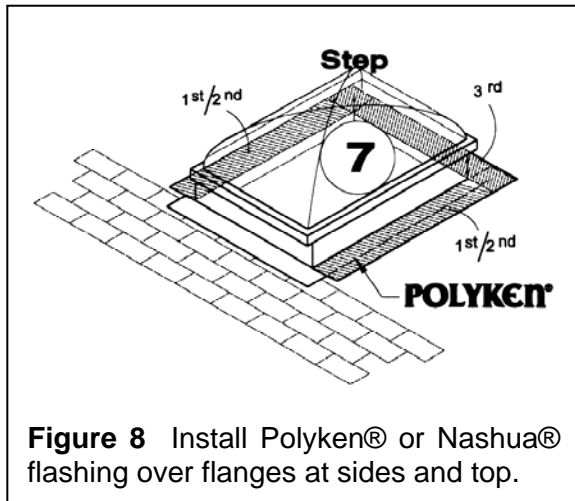

Figure 8 Install Polyken® or Nashua® flashing over flanges at sides and top.
Step 7. Apply Polyken® or Nashua® flashing strips along both sides of skylight over flange extending a minimum of 6" above top of opening. Using a hand roller, roll strips flat to flange and underlying Polyken® or Nashua® flashing strip at opening perimeter. Apply Polyken® or Nashua® flashing strip across top (head) of skylight frame covering flange and lapping onto underlying Polyken® or Nashua® flashing strips. Roll head flashing flat (see Figure 8).